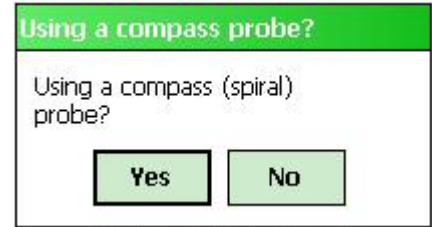

Figure 15 - Compass Probe Confirm
Select **System**→**Compass Probe** and the dialog box depicted in figure 15 will be displayed:
- To discontinue the use of Compass Probes, you must exit the **Live Readings** screen, select **System**→**Compass Probe** again, and answer **No** at the prompt (see figure 15).